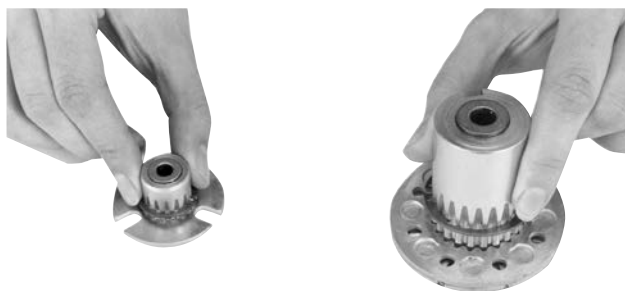

Figure 3
2. The standard armature and hub must be assembled before it can be installed. Assemble the armatures so that the shiny surfaces size (120 and 170) or backing plate sides size (250 and 400) are against the hub retainer ring (Figure 3).